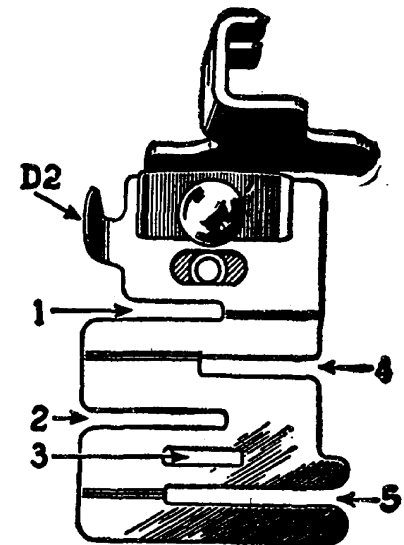

Fig. 54
in Fig. 54, serve as guides for sewing together laces, insertions and embroideries, sewing in position hemmed or folded edges, piping or sewing flat braid to a garment.
The distance from line of stitching to edge of material in slots is regulated by moving lug **D2**, Fig. 54 to right or left. If lug moves with difficulty, place a drop of oil under blue spring, then wipe it dry.
1. Insert one of the laces in slot 1 of edge-stitcher and the other in slot 4, Fig. 54.
1. Fold edge of material to which lace or ribbon is to be sewn and insert it in slot 1, **Fig. 54** of edge-stitcher.
2. Insert piping with its folded edge to left in slot 3 and edge to be piped in slot 4, **Fig. 54**.
1. Place garment under edge-stitcher and tape in slot 1 or 4, Fig. 54.
2. Insert edge in slot 5, Fig. 54, and adjust lug D2 to stitch as close to edge as desired.
1. To make a French seam of uniform width, insert two edges to be joined, wrong sides together, in slot 1 or 2, Fig. 54, and stitch close to edge.
3. Insert creased folds in slot 1, Fig. 54 and adjust edge-stitcher to right or left for the desired width of tuck. Use a light tension, short stitch and fine thread and needle.